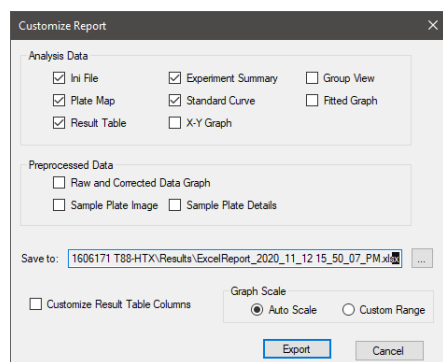

Figure 10-44: Excel Report Export Options
- Click  (**Excel Report**) to export the processed (corrected) data for your experiment or combined data set in .xlsx format. Select which experimental components to export, use the default report name or click ... to specify another name/location, then click **Export** (Figure 10-44).